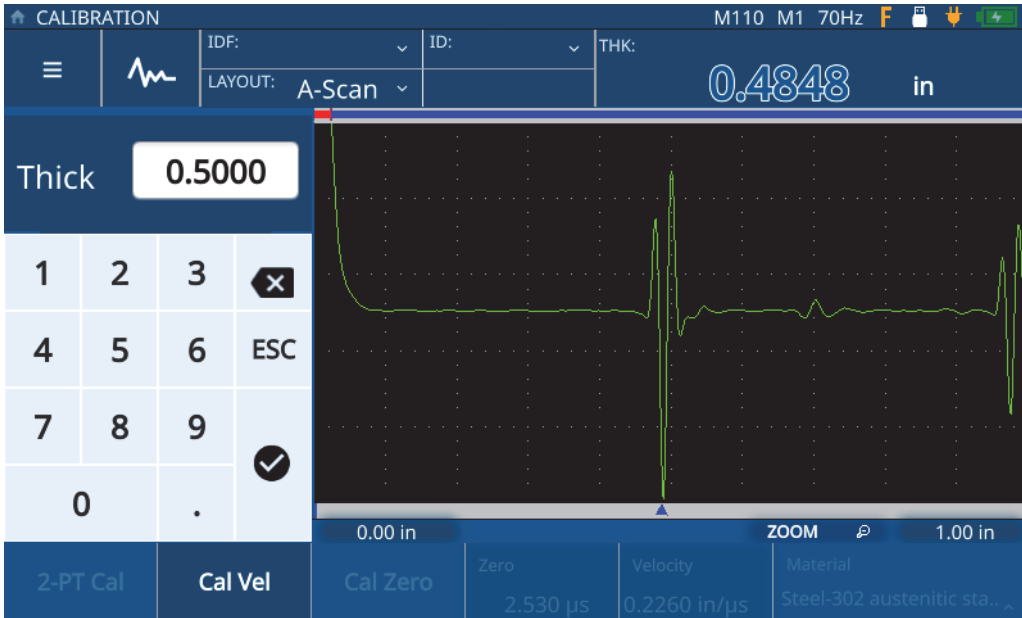

Figure 5-3 Entering Sample Thickness
5. Tap the **Thick** value to enter **Edit** mode, and enter the thickness of the sample (see Figure 5-3 on page 42).